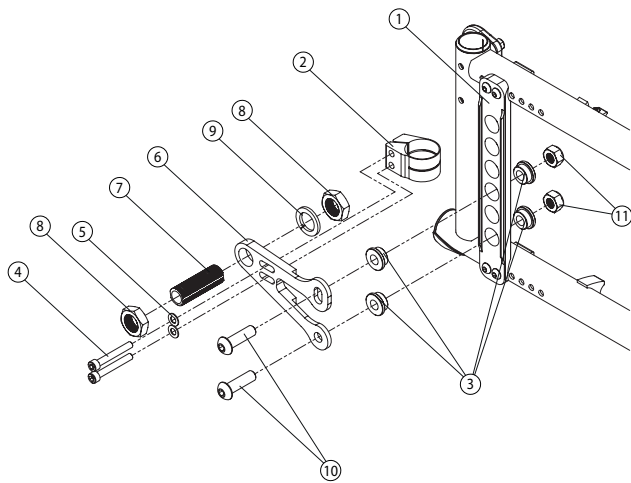

Fig. 32
- Install mounting plate (1) (Fig. 32) by bolting it to the frame.
- Install the back clamp (2) onto the rear of the frame.
- Insert 4 amputee plate adapters (3) on the mounting plate (1) at the desired position.
- Insert both bolts (4) and washers (5) into the back clamp (2) through amputee plate (6) and tighten.
- Insert axle bushing (7) through the amputee plate and insert nuts (8) and lock washer (9)
- Insert 2 bolts (10) through the mounting and amputee plate (1 and 6) and tighten with lock nuts (11).